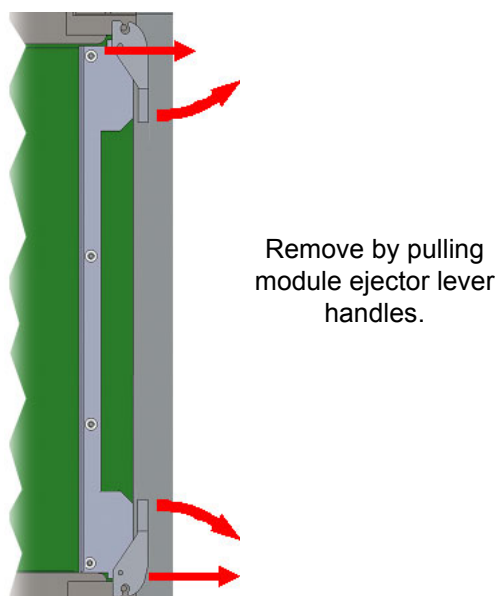

Fig. 3-7: Removing Front Modules, showing use of module eject levers
- 8 Remove all front modules from front slots that need to be emptied by pulling on the two module eject levers and sliding the module out of the frame. See Figure 3-7.